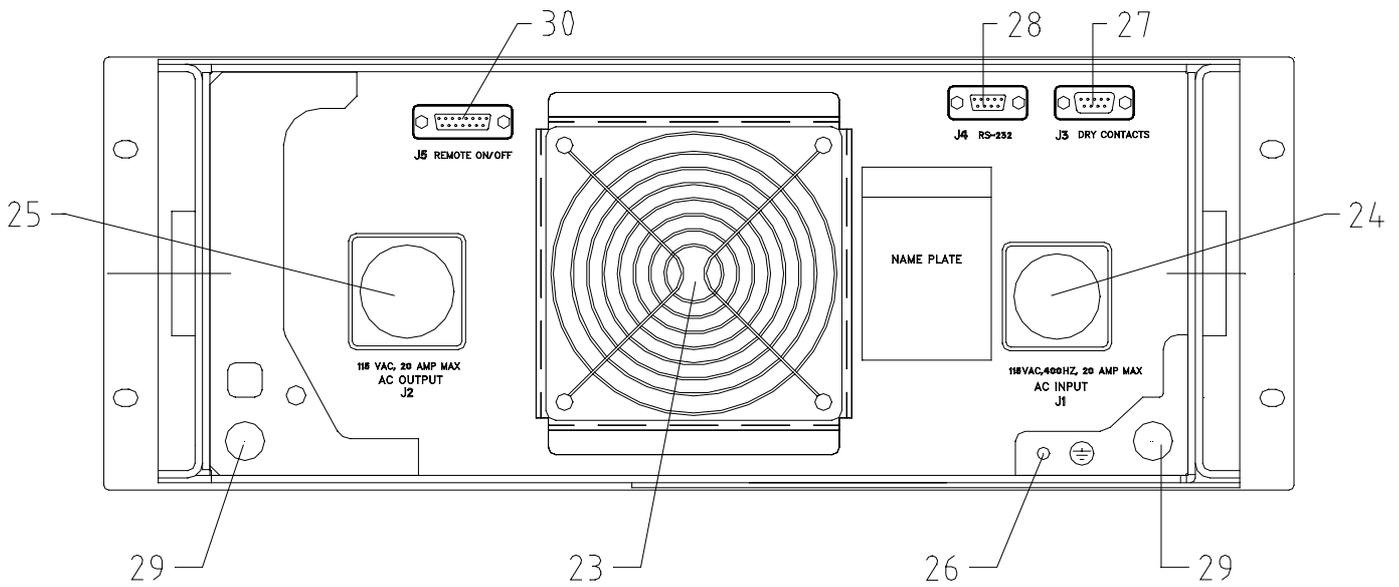

Figure 5 - Rear Panel
Two circular connectors (J1 and J2) are provided on the rear panel of the UPS (see Figure 5). J1 is the input connector, J2 is the output of the UPS.
5. Rear Panel Description (See Figure 5)